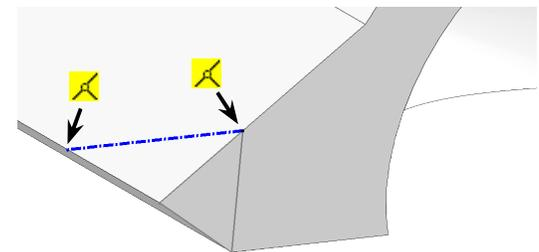

Fig. 66
Step 3. Sketch **centerline from front edge of hood to side edge coincident with line in Sketch6**, **Fig. 66**.